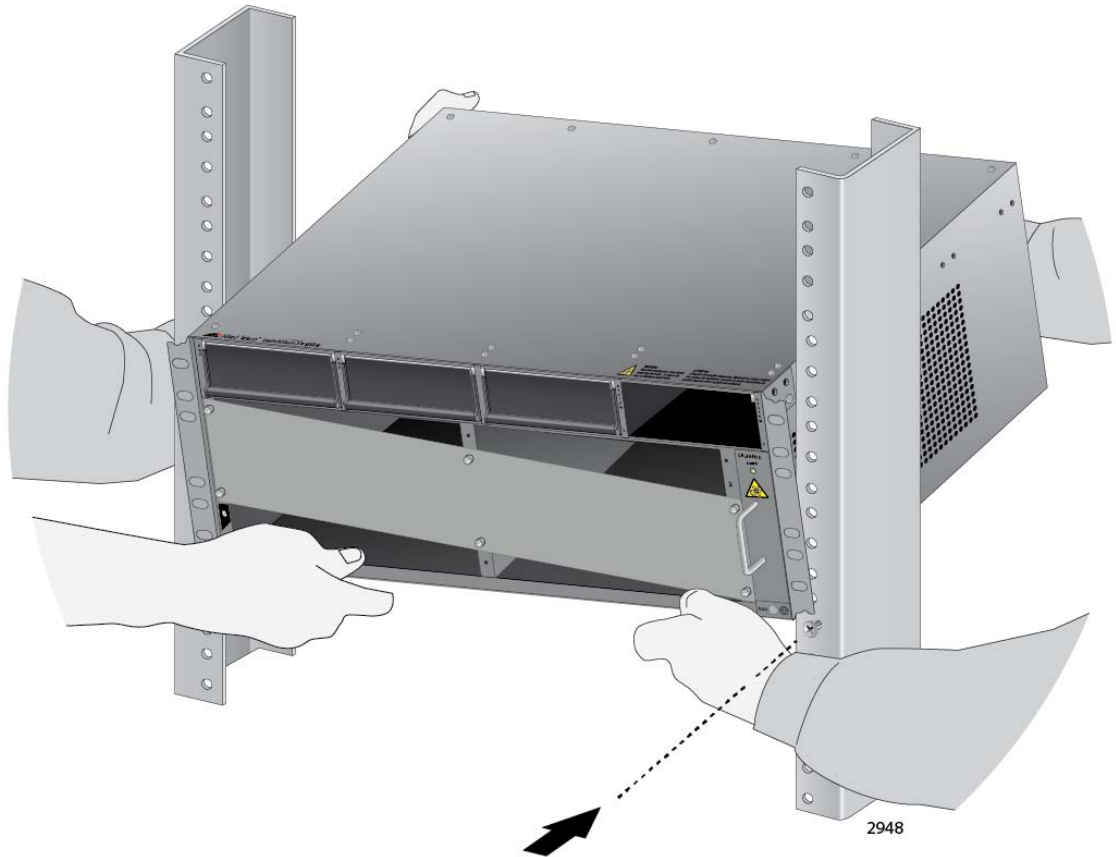

Figure 41. Lifting the AT-SBx8106 Chassis into the Equipment Rack
2. Lift the AT-SBx8106 Chassis into the equipment rack and set the bottom of the equipment rack brackets firmly on the two equipment rack screws you installed in “Preparing the Equipment Rack” on page 103, as shown in Figure 41.